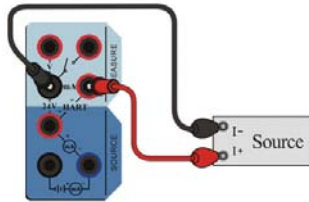
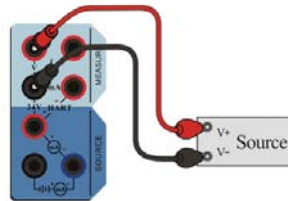

Figure 3-8 Current measure
Figure 3-9 Voltage measure
2. Connection: complete the electrical connection as shown in Figure 3-8 or Figure 3-9.